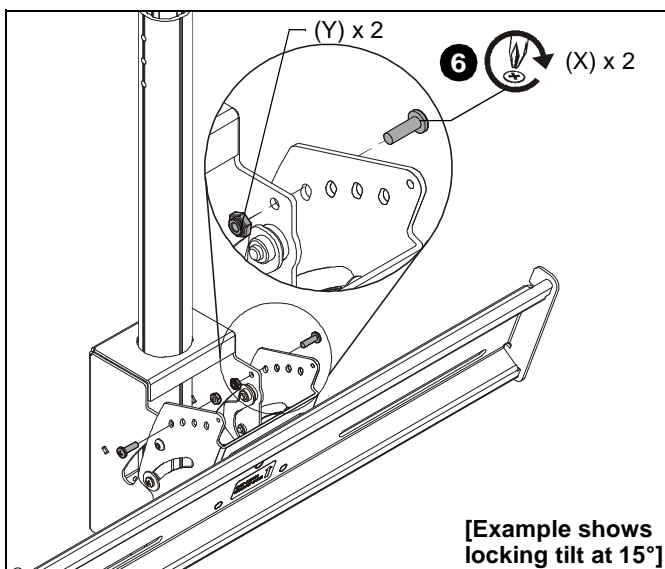

Figure 11
6. If using the tilt settings of 0°, 5°, 10° or 15°, insert two 10-24 x 5/8" Phillips head screws (X) and two 10-24 lock nuts (Y) to lock mount at the specific tilt. (See Figure 11)